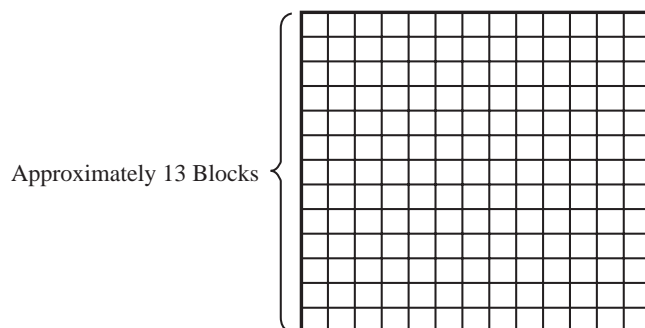

Fig. 2-4 (b)
- (1) Using LEADER LCG-404, input the cross hatch signal.
- (2) As is shown in Fig. 2-4 (b), make adjustments with SFR501 so that the number of vertical squares is 13.